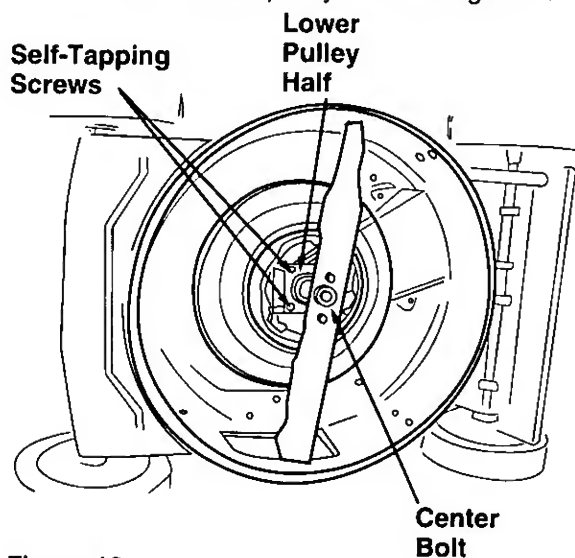

Figure 18.
- Remove the center bolt which secures the blade to the crankshaft. See figure 18. Remove the blade and blade adapter.
- Remove the two self-tapping screws which secure the lower pulley half. See figure 18.